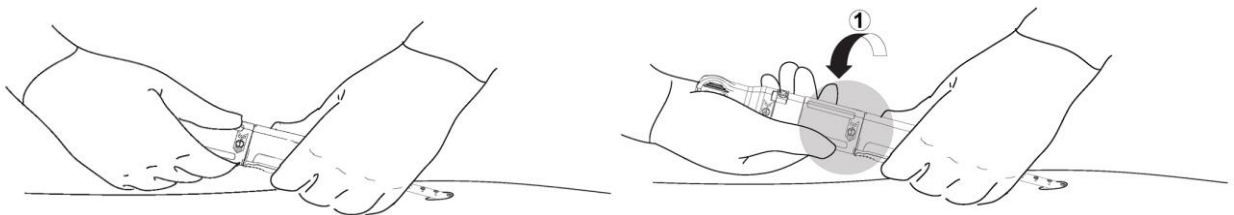

Figure 12. Step 1 of PerQseal+ closure device Actuation (Unsheathing the implant).
Grip the distal end of the PerQseal+ closure device handle (closest to patient). Stabilise the device in position by supporting this hand on the patient, Figure 12.
- Place hand on the sheath cam, marked '1' and rotate this grip section in the indicated direction 180° to align the dots. Ensure the hand gripping the distal end of the handle remains fixed and the handle remains stationary during this rotation, Figure 12. The implant is now exposed within the artery.